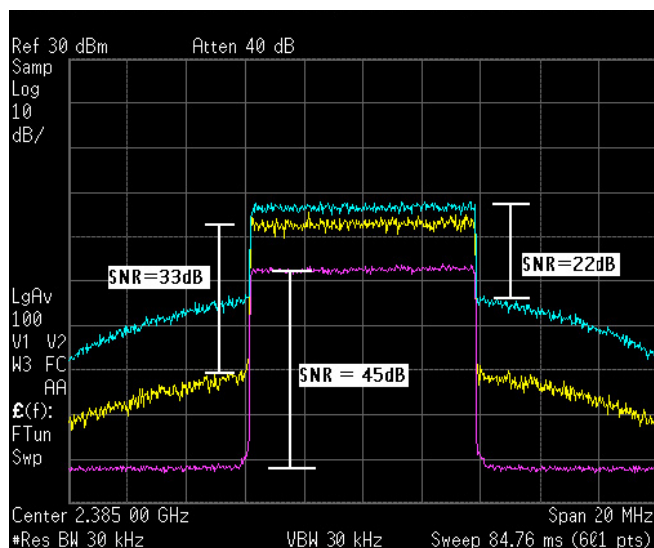

Fig.1
These higher PAR levels translate to higher power being needed in an amplifier. That can be seen as inefficiency, as the heavy lifting is being done at lower power levels, or as a reasonable cost of increasing the density of the data. Crest Factor Reduction (CFR) schemes that pre-clip the signal can reduce the PAR for some types of modulation, but even so, complex modulated signals will still degrade slowly over a wide power range as the signal peaks are increasingly clipped in the amplifier (see **fig. 1**). This causes progressively increasing digital errors and also pushes energy into adjacent channels, creating "noise". It is important to remember that PAR for complex-waveform signals can vary with the data payload sent, so try to test your system with a worst-case data set. Pseudo-noise (PN) data produced by a signal generator may not represent your worst- case signal.
Figure 1 shows an OFDM signal degrading in an amplifier as the Peak power approaches and crosses over the  $P_1$  compression point. The lowest trace is an uncompressed signal with better than a 45dB signal-to-noise ratio (SNR). The middle Trace 2 shows the input signal 10dB higher than for Trace 1, with signal peaks just touching the  $P_1$  point. While the gain across the data channel has increased by 10dB, Intermodulation distortion has created “shoulders” of noise, reducing the SNR to 33dB. Increasing the drive by only 5dB in Trace 3 shows that the power in the adjacent channels has increased by 16dB, and SNR has been reduced to about 22dB. Your specific application will determine what level of SNR is required or can be tolerated.